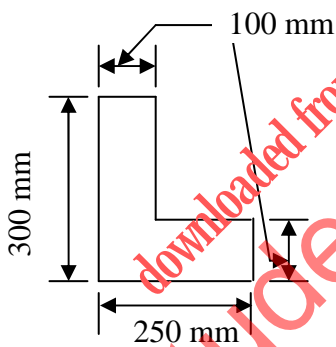

Fig.8 Q-4 (c) OR
- (c)** Find Moment of Inertia of a lamina shown in the fig.8 about horizontal centroidal axis. **06**